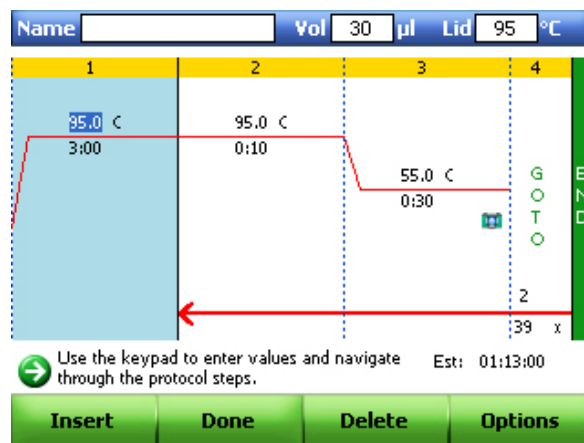
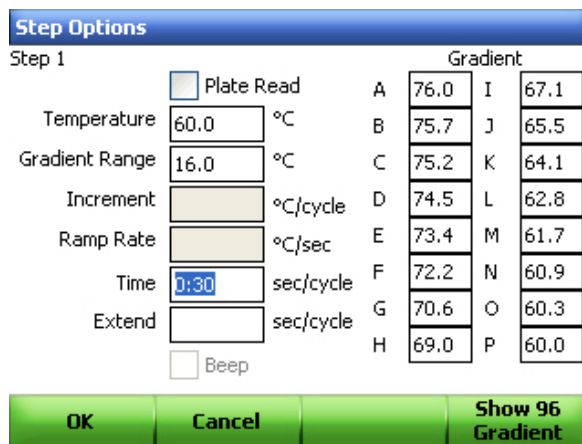

Figure 38. Default real-time PCR protocol.
Figure 39. Step Options window.
1. Select **New Protocol (F4)** in the start-up screen to open a new protocol template (Figure 38).
- (Optional) To insert a new step, select the **Insert** (F1) button. To delete a step, select the **Delete** (F3) button (Figure 38).
- (Optional) To change step options, select the **Options** (F4) button (Figure 38). In the **Step Options** window, select a parameter to change, including the temperature and time of the step, or add/remove a plate read to the step (Figure 39).
- When creating a new protocol, you have the option to save it with a name. Use the arrow keys to navigate to the Protocol **Name** box and then press the alphanumeric keys to type a new protocol name (Figure 38)
- To change the default sample volume, select the sample volume box (**Vol**) (Figure 38). Use the alphanumeric keys to enter a new sample volume in microliters.
- To change the default lid temperature, select the lid temperature box (**LID**) by pressing the arrow keys (Figure 38). Use the alphanumeric keys to enter a new temperature. For the CFX96 system, use a lid temperature of 105°C; for the CFX384 system use a lid temperature of 95°C
1. To run the protocol, click the **Done** (F2) button in the Protocol window (Figure 38).